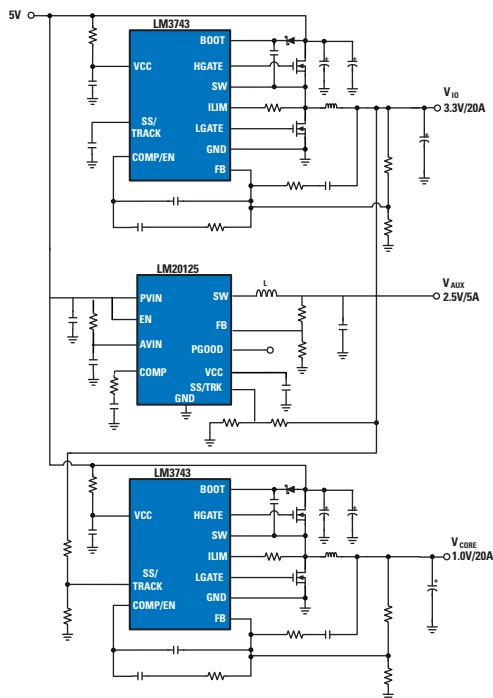

**Figure 7. Externally-Sequenced Single Chip FPGA Power Supply**
**Figure 7** features the LM26480 PMIC to provide the CORE, IO and AUX voltages from a single device. This device integrates dual switching regulators with a current capability of up to 1.5A each and dual LDOs with a current capability of up to 300 mA each. This high degree of integration makes the LM26480 an ideal solution for use with the Cyclone and Spartan families of FPGAs. This solution provides a monotonic startup with internal soft-start to limit inrush startup currents. Sequencing is performed with the LM3880. The startup sequence will be the CORE followed by the IO, and then by the AUX rails. The LM3880 features an integrated precision enable circuit that allows the user to set the turn on voltage with two external resistors.